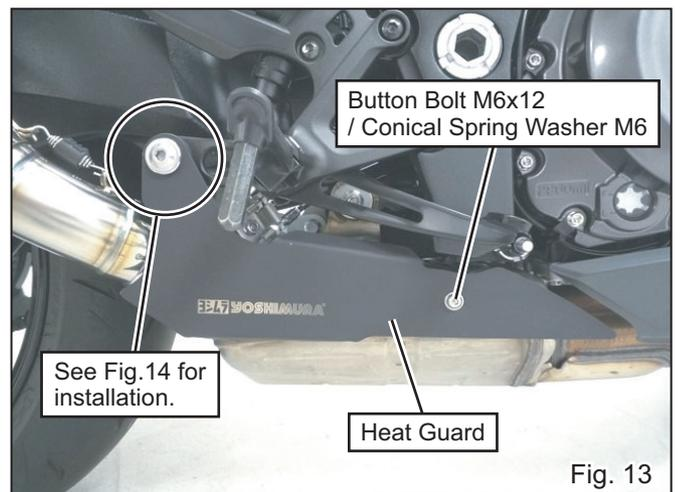

Fig. 13
- 13) Mount Heat Guard with Button Bolt M6x12, Conical Spring Washer M6, stock bolt, washer and nut removed at step 2) (See Fig. 13 & 14). Tighten and torque Button Bolt M6x12 and stock bolt.